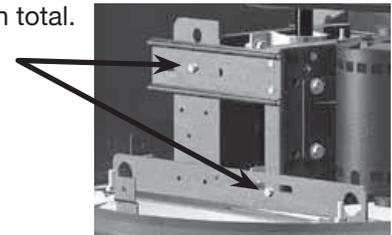

Figure 12
10. Belt tension can be adjusted by loosening four fasteners on the drive frame. See Figure 12. The motor plate slides on the slotted adjusting arms and drive frame angles in the same manner.
| | Belts too tight or too loose | Adjust tension, see page 6, Figures 12 and 13. |